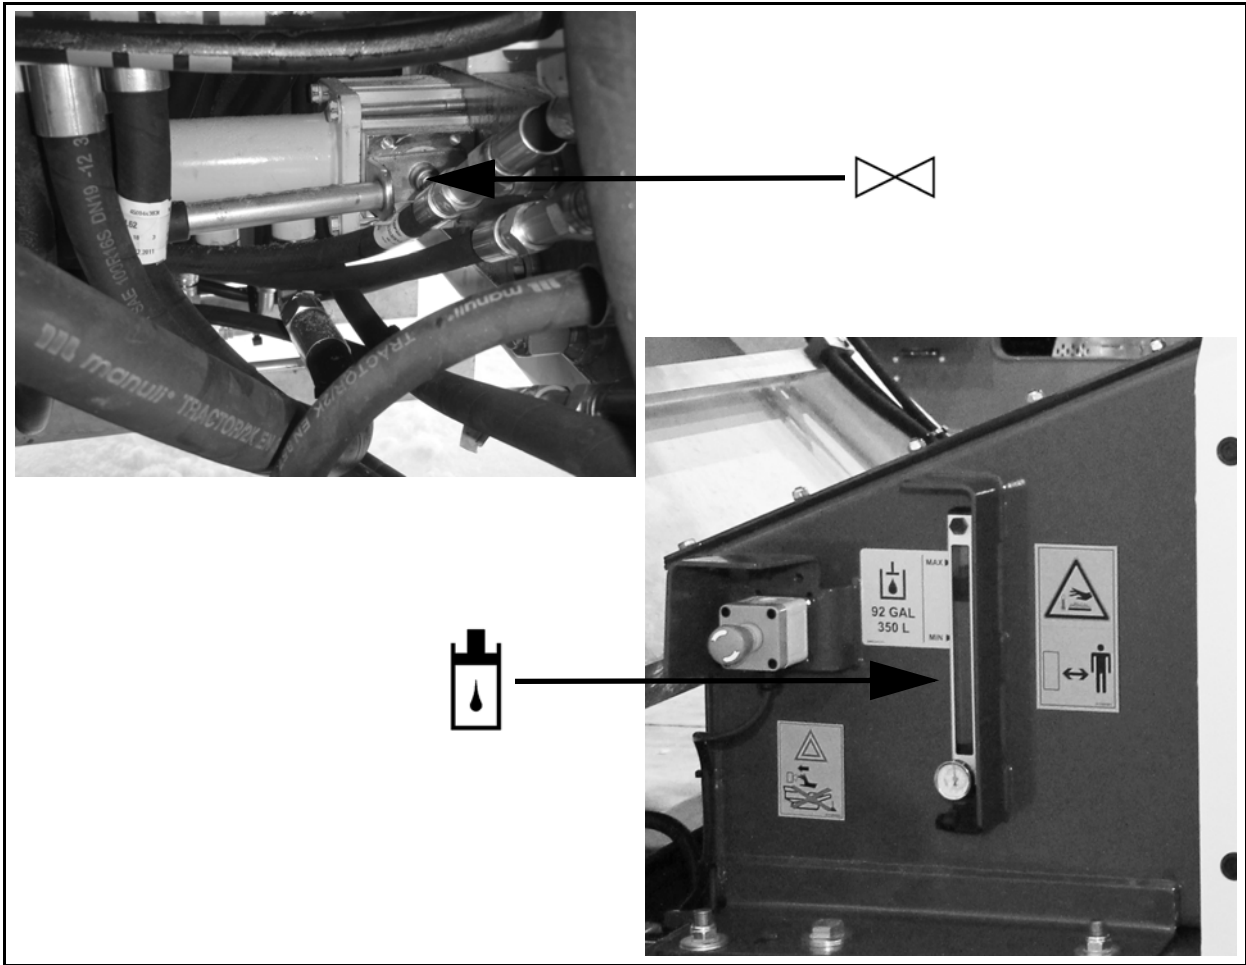

Figure 5.5 Make sure that the shut-off valve of the hydraulic tank is fully open
5. Check that the hydraulic shut-off valve is opened. (Figure 5.5).
6. Check the hydraulic oil level from the sight glass. Add hydraulic oil, if necessary (Figure 5.5).